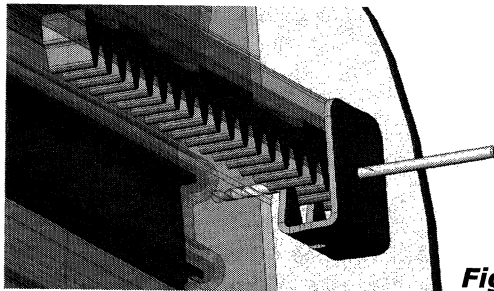

Fig. 3
2. Using a 1/8" (3.2mm) drill bit (Bruno P/N: DRB-13001, provided with kit SRV-3000-023), place a hole in 2 walls of the extrusion (Figs. 3 and 4). Do not drill through entire extrusion.